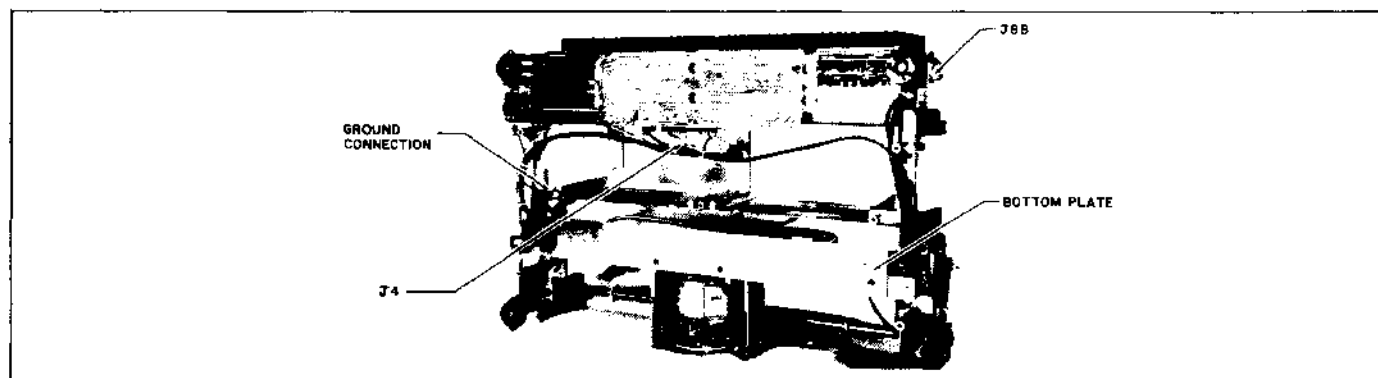

Figure 3-12. Prepare Carriage Cables for Removal
- (1) Remove the access cover, platen, and top cover (make sure power is off).
- (2) Remove and store the ribbon cartridge and printwheel.
- (3) Open the left-hand (as shown in Figure 3-12) wire bundle, and unplug the sheathed printwheel drive cable connector P4 at mother board connector J4. Separate this cable from the wire bundle for later removal. Also disconnect the black ground wire, which is a part of this cable, where it is fastened to the main frame near the end of the cable's shield spring.
- (4) Open the other wire bundle. Locate the sheathed cable extending from connector J8B on the Transducer board (Slot G) to the carriage through the smaller cable shield spring. Unplug this cable at the circuit board, and prepare it for later removal from the printer with the carriage.
- (6) This step applies only to those printers with the optional bottom feed paper chute installed. Refer to Figure 3-12.